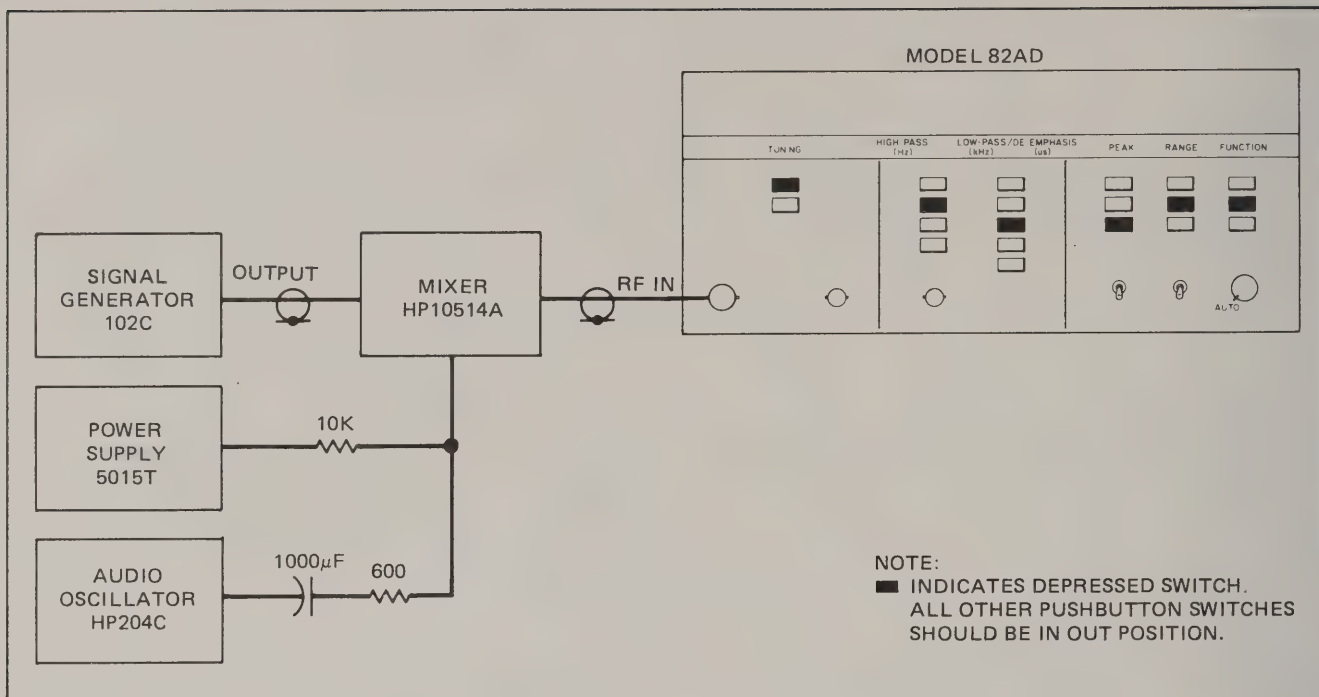

Figure 2-11 AM Rejection Check, Test Setup
- a. Connect the Model 82AD and test equipment as shown in Figure 2-11.
- c. Set the Model 82AD LEVEL control to the AUTO position. Depress the Model 82AD switches indicated in Figure 2-11.
a. Connect the Model 82AD and test equipment as shown in Figure 2-11.
b. Set the Model 82AD LEVEL control to the AUTO position. Depress the Model 82AD switches as shown in Figure 2-11, except select the 10 Hz highpass filter and the 200 kHz lowpass filter.